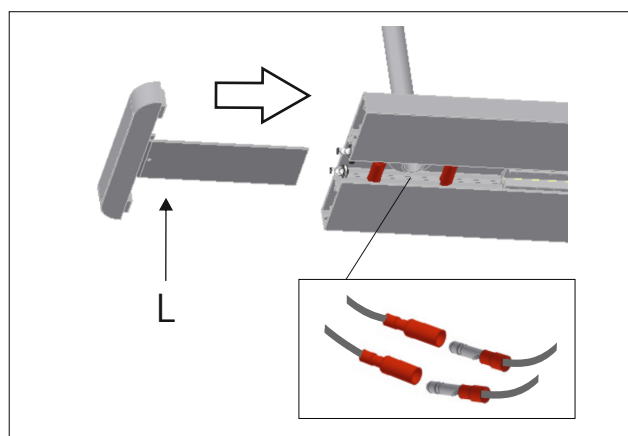

Figure 13
- 13 - Connect the electrical wires and place back the cover (L). Screw back the stud bolt be gentle with the pressure. Do not over tight. Figure 13.